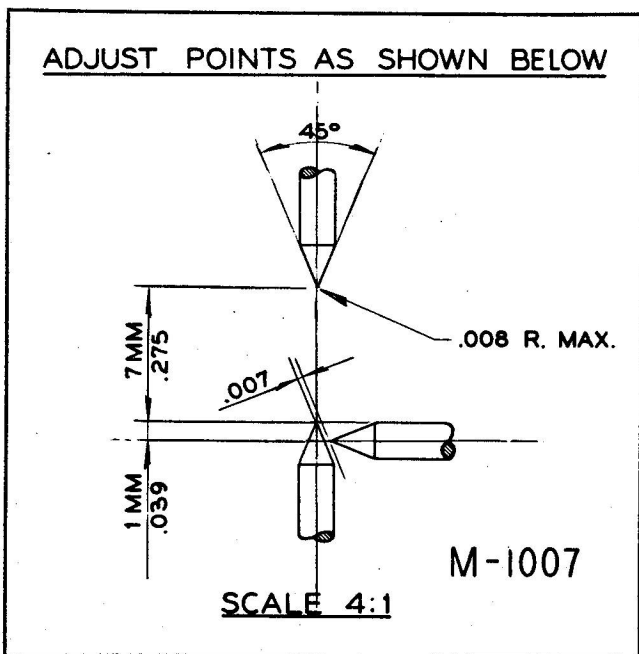

Figure 11—Correct Setting of Standard 7 mm., 3 Point Spark Gap
b. Connect the high tension cables to the spark rack set with 7 mm. gasps. (See figure 11.) Run the magneto at normal speeds for two or three minutes to observe mechanical operation.